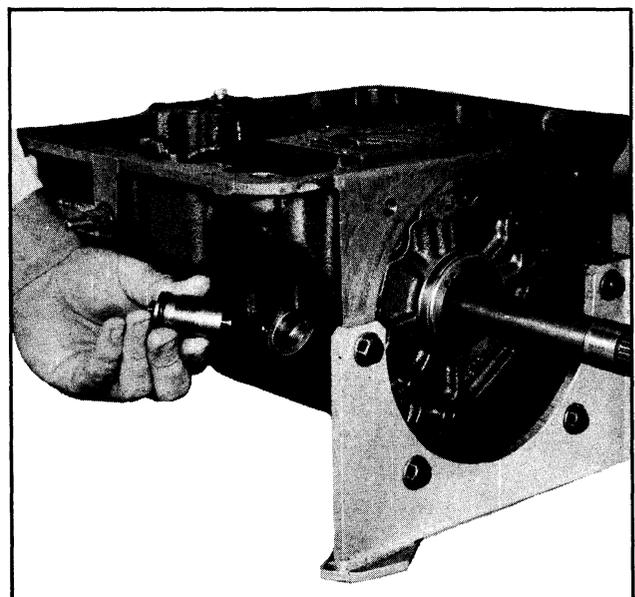

Fig. 3-29 Pressure Regulator Plug Removal
- 13. Remove the pressure regulator plug assembly. (See Fig. 3-29)